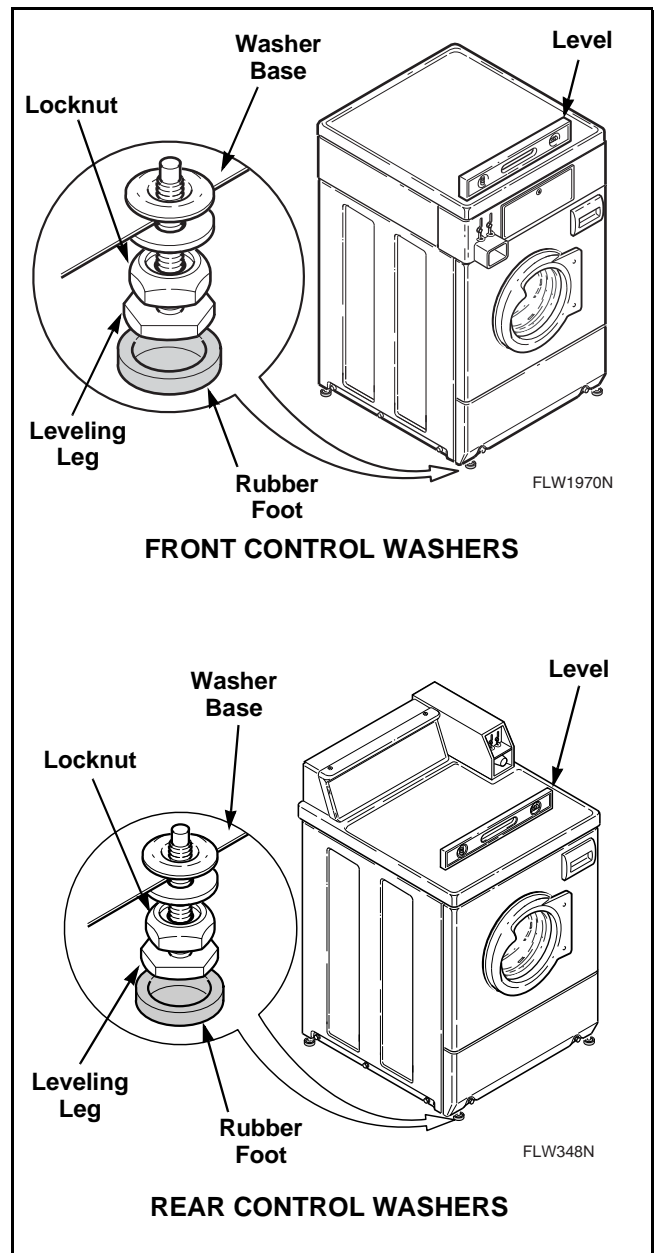

Figure 58
- Loosen locknuts and adjust the leveling legs until the washer **does not rock**. Refer to *Figure 58*.
**NOTE:** Level must rest on raised portion of top panel. Refer to *Figure 58*.
- Place rubber feet on all four leveling legs. Refer to *Figure 58*.